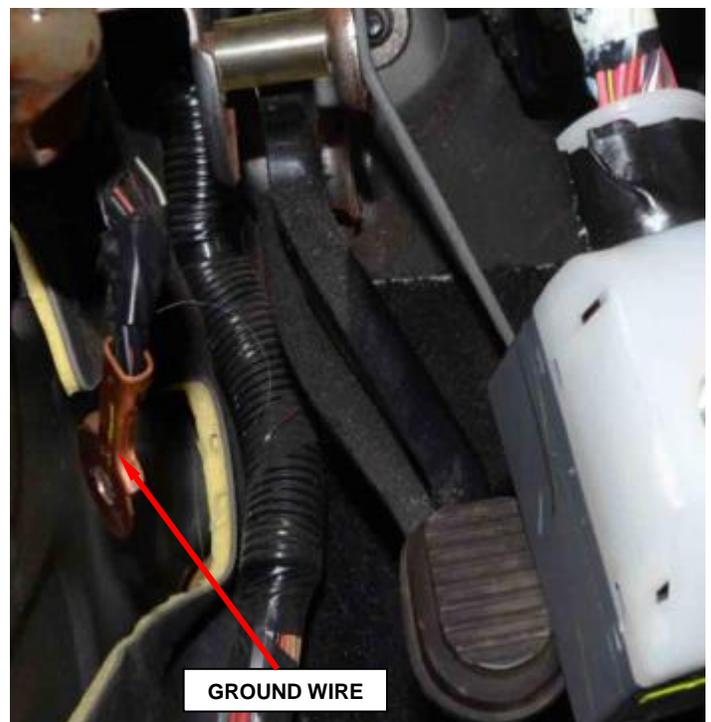

Figure 74 – Bolt and Ground Location
20. Remove the bolt and the ground from the left A-pillar (Figure 74).